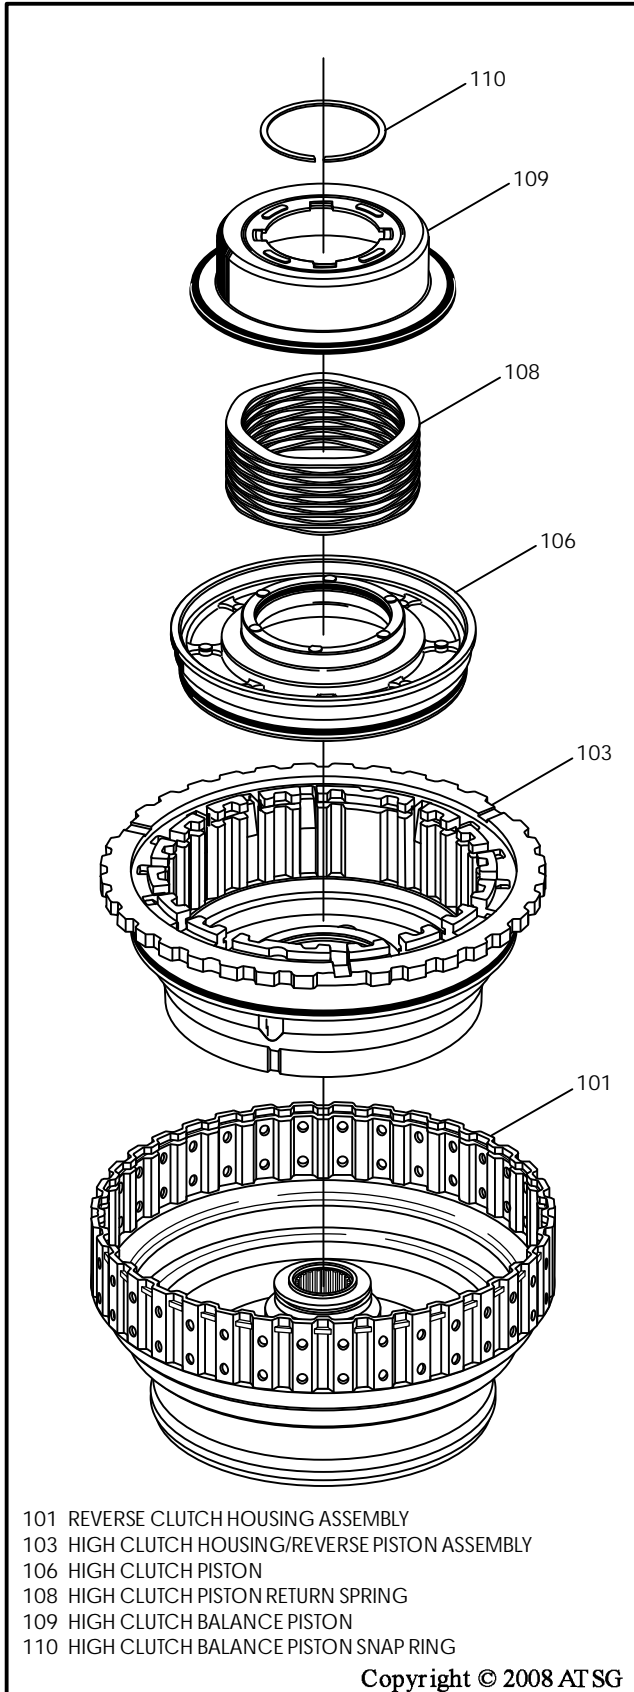

Figure 137
7. Install the high clutch housing/reverse piston assembly into the reverse clutch housing, as shown in Figure 137.
8. Install the high clutch apply piston into high clutch housing/reverse piston assembly, as shown in Figure 137, and ensure that both of the pistons are fully seated.
9. Install the return spring assembly, as shown in Figure 137.
10. Install the high clutch balance piston on top of return spring, as shown in Figure 137.
11. Compress the balance piston and return spring using the proper adapters and install the snap ring, as shown in Figure 137.